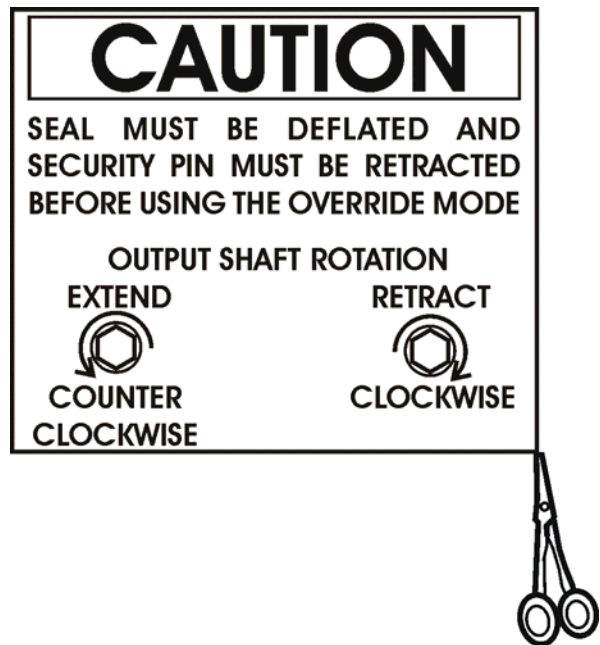

FIGURE 10
14. Place decal #478251 or figure 10 over the existing decal.